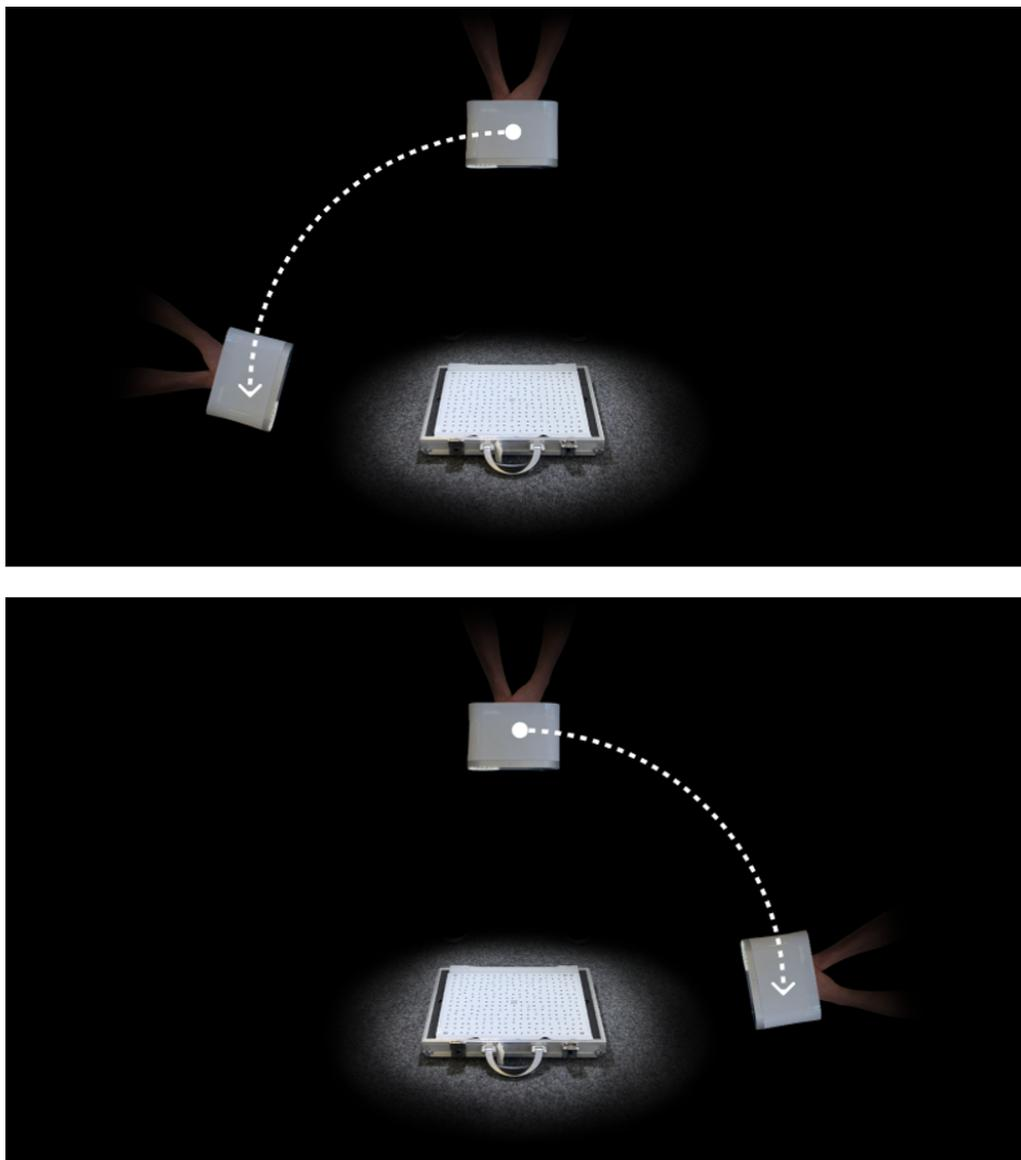

Figure 43: Trajectories of scanning for recalibration.
4. Point Leo to the *Calibration board* and start scanning (See Figure 43). There are multiple trajectories you should cover with your scanner, to perform recalibration.